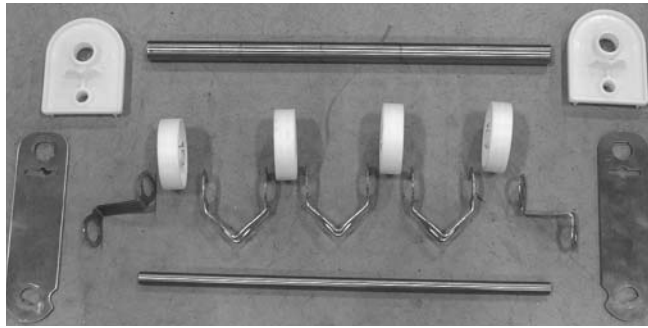

Figure 72
11. Replace components, as needed (Figure 72).